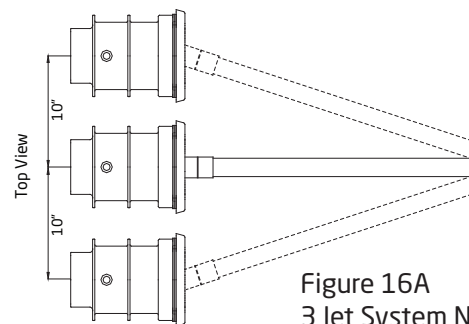

Figure 16A
2. Place one nozzle adjustment tool into the center jet nozzle, bring the blue nozzle tool so it is straight out and tilted up, so the end of the tool breaks the surface of the water and leave tool in the jet. (See Figure 16A)